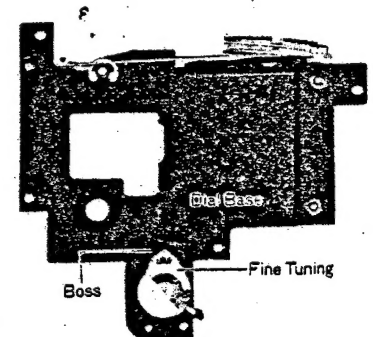

Fig. 8
5. Insert the fine tuning at the position, as shown in fig. 8.